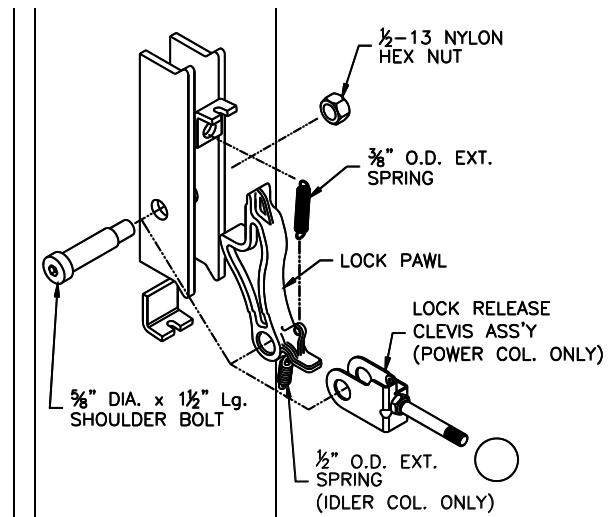

Fig 2 – Locking Pawl Assembly
- 4) Install Power Column locking pawl and lock release clevis with 5/8" diameter x 1 1/2" lg shoulder bolt and 1/2"-13 nylon lock nut, **Fig. 2**. Attach 3/8" O.D. extension spring to upper hole in locking pawl and other end to hole in bracket welded to column.
- 5) Attach 1/2" O.D. extension spring to hole located on bottom side of Idler Column lock pawl and install using 5/8" shoulder bolt and lock nut, **Fig 2**. Attach 3/8" O.D. spring the same as Power side.